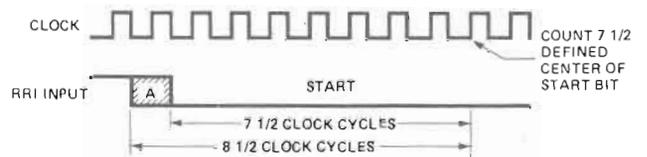

FIGURE 9. Start Bit Timing
The receiver uses a 16X clock for timing (see Figure 9.) The start bit (A) could have occurred as much as one clock cycle before it was detected, as indicated by the shaded portion. The center of the start bit is defined as clock count $7\frac{1}{2}$. If the receiver clock is a symmetrical square wave, the center of the start bit will be located within $\pm 1/2$ clock cycle, $\pm 1/32$ bit or $\pm 3.125\%$. The receiver begins searching for the next start bit at the center of the first stop bit.